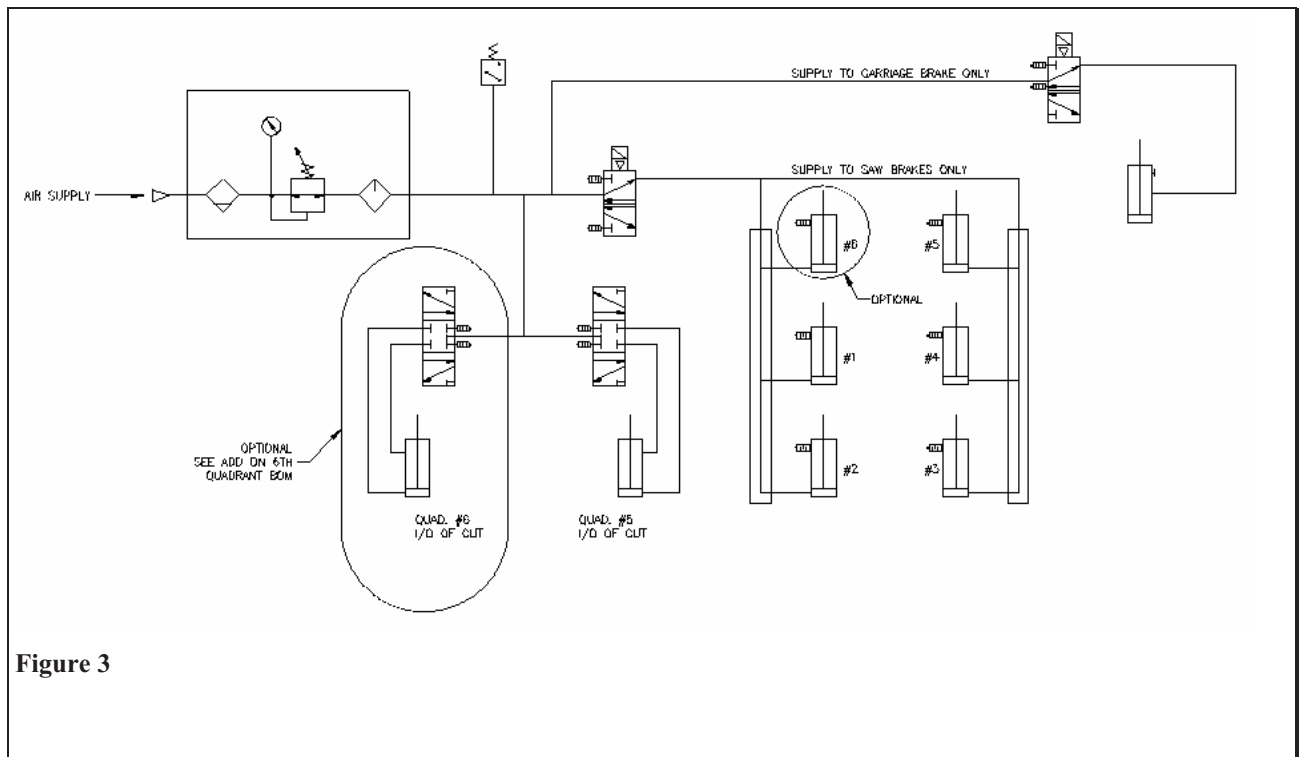
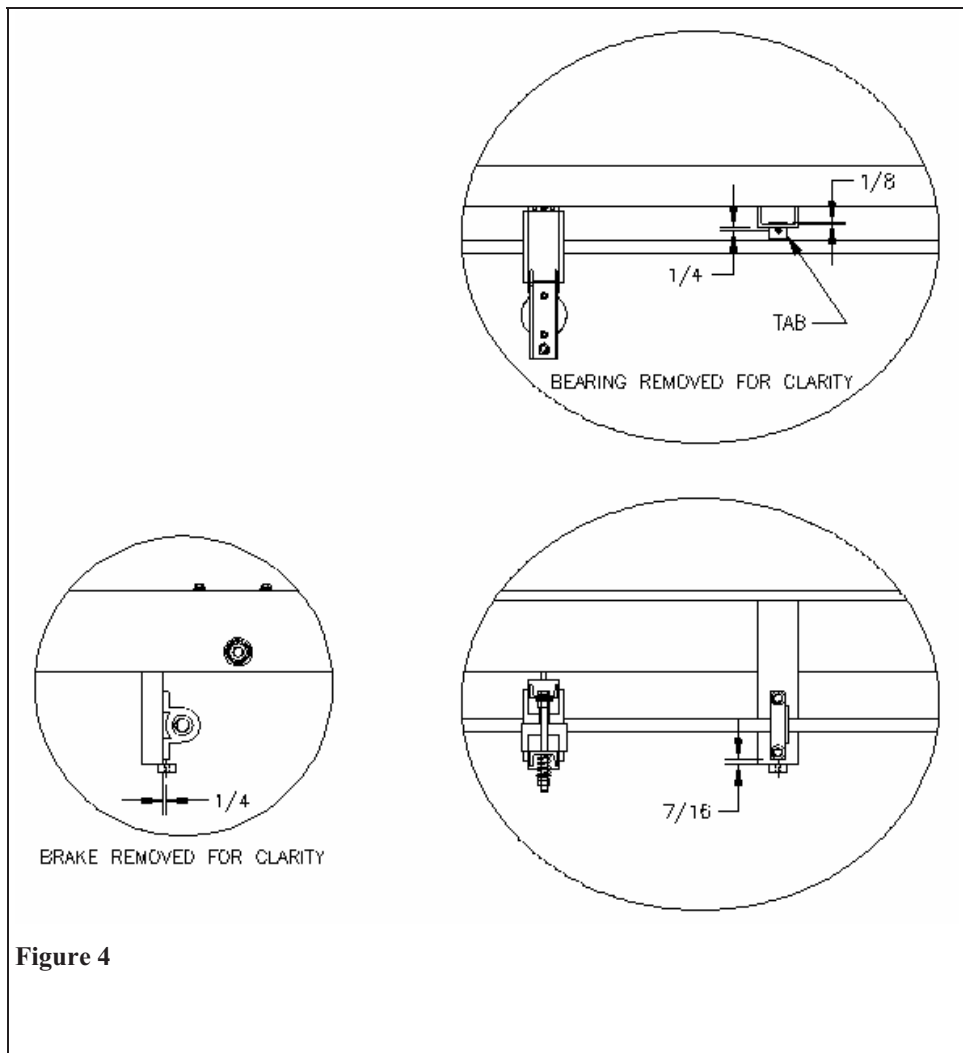

Figure 3
Figure 4
5. Please check brake on carriage. The brake should be air operated. See **Figure 3 & Figure 4**
1. To allow easier adjustment of pillow block bearings which support the carriage drive shaft, please add adjustment tab as per **Figure 4**.